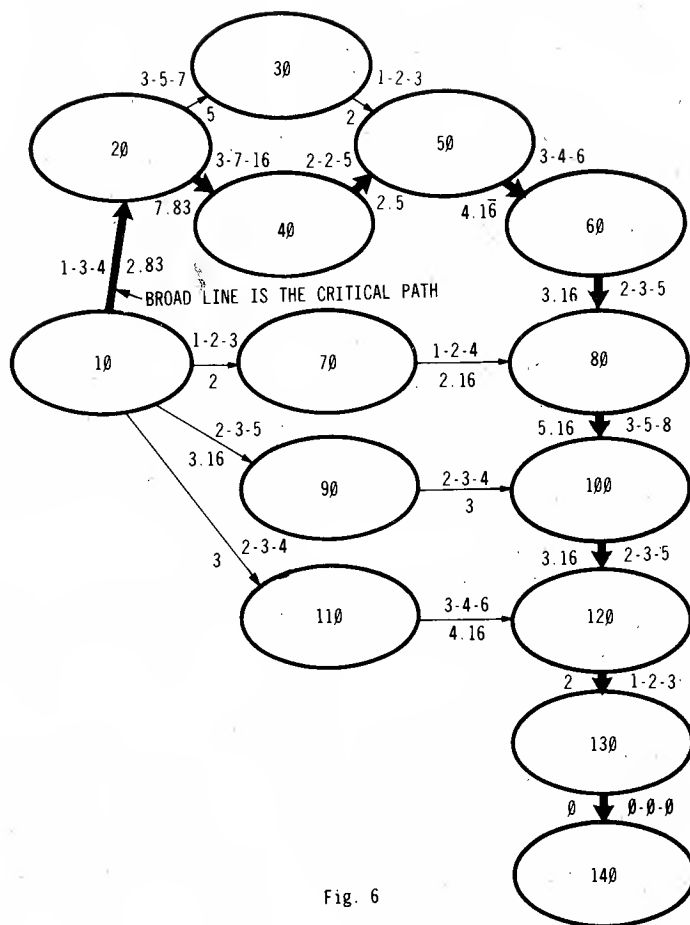

Fig. 6
Figure 6 shows the network after the time estimates have been entered. Note also that the events have been replaced by numerical codes for easier handling in the computer program.
(See Figure 6 on page 50.)
Figure 6 also introduces two new concepts: (1) dummy activities and (2) the critical path. A dummy activity, like activity 130-140, represents no work expenditure. It is only inserted to help maintain the logic of the network. Since every event ellipse is identified as starting something or completing something, the network will be more easily understood if the starting point and completion point of an event can each be identified. Since the start of an activity which is not represented by a start ellipse is that point in time immediately following the completion of the predecessor event, it is often not necessary to show both of these instantaneous points in time. However, if the logic of the interrelationships, and the ease of understanding the network can be improved by the inclusion of dummy activities, such dummy activities will help avoid confusion and thereby show a truer description of the project tasks. In this case, the event numbered 130 (complete system
For the example, we will assume that the scheduled completion time for the project is 30 days. After performing the necessary calculations, Figure 6 can be transformed into the tableau shown in Figure 7.